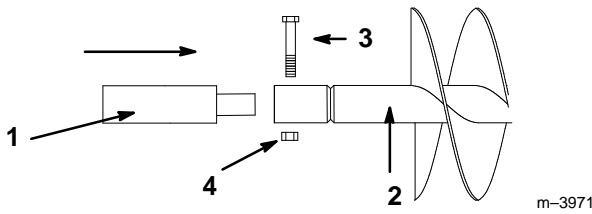

Figure 5
4. If using an extension with the auger, insert the end of the extension into the end of the auger and secure the auger to the drive head with the 7/8"–9 x 4–1/2" bolt and 7/8"–11 nut (Fig. 5).